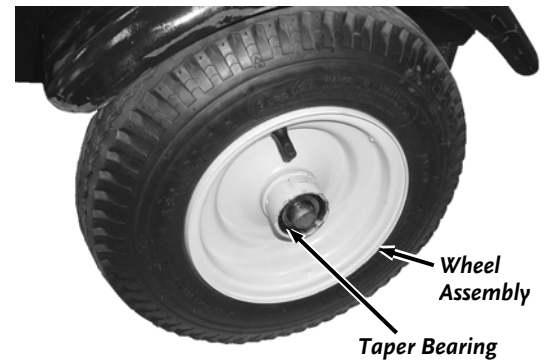

Figure 62
5. Screw the Castle Nut onto the Axle and tighten it with an adjustable wrench to seat the Bearings (**Figure 62**).